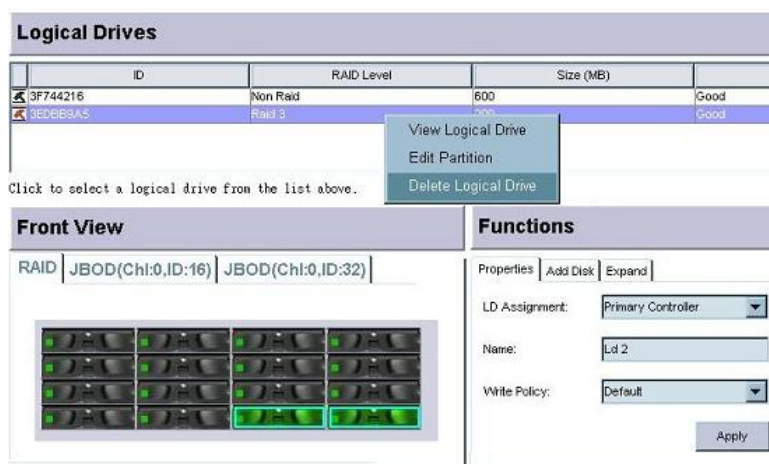

Figure 9-15: Displaying the Logical Drive Command Menu
Step 1. Select the logical drive you wish to remove with a single mouse-click. **Right-click** on the adjacent screen area. A command menu will prompt as shown in **Figure 9-15**.